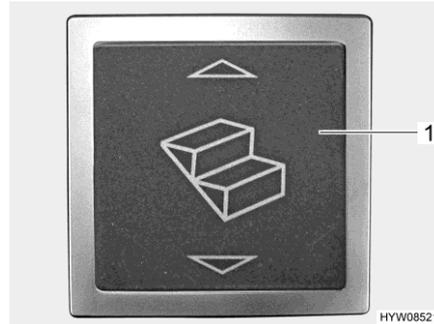

Fig. 7 Rocker switch for entrance step (entrance area)
- Press the rocker switch (Fig. 7,1) situated in the entrance area.